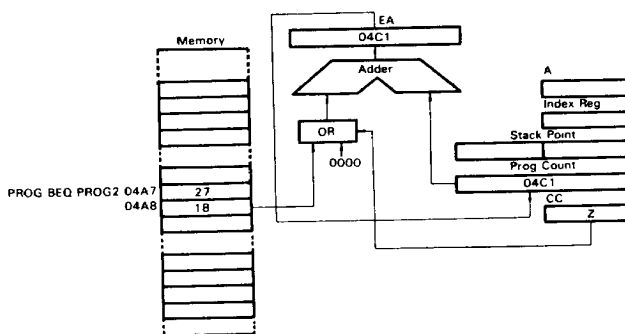

Figure 32 Example of Relative Addressing
See Fig. 32. The relative addressing mode is used with branch instructions only. When a branch occurs, the program counter is loaded with the contents of the byte following the operation code.  $EA = (PC) + 2 + Rel.$ , where Rel. indicates a signed 8-bit data following the operation code. If no branch occurs, Rel. = 0. When a branch occurs, the program jumps to any byte in the range +129 to -127. A branch instruction requires a length of 2 bytes.